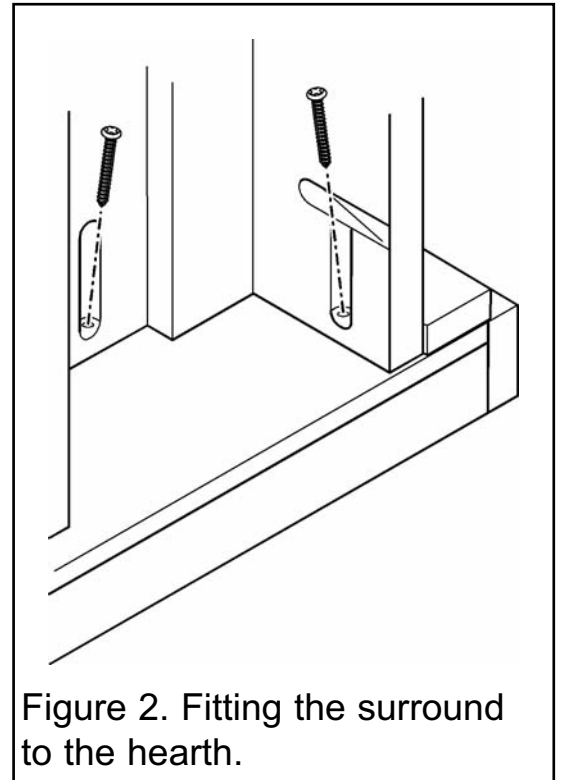

Figure 2. Fitting the surround to the hearth.
- Lay the hearth (A) on the floor. Stand the surround (B) on top of the hearth. Position the surround so that it is central to the hearth and the rear of the surround legs are flush with the back of the hearth.
- Secure the surround to the hearth using four screws (C) (See figure 2).